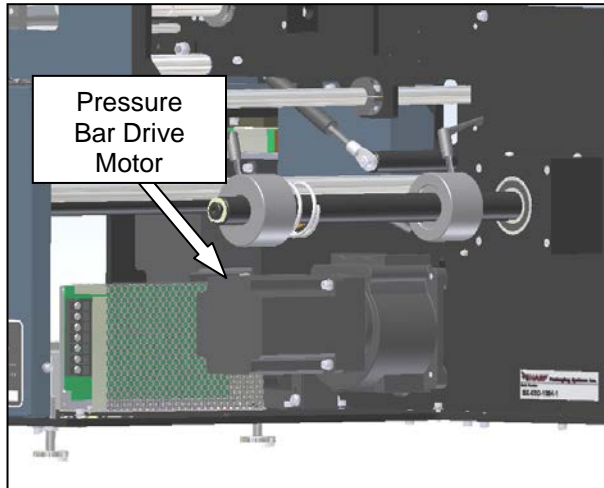

Figure 3-285. Pressure Bar Drive Motor
2. Locate the pressure bar gearbox and motor. Examine the base plate underneath the assembly (see Figure 3-285). The plate should be clean and dry. If oil is present, the gearbox is leaking and needs repair or replacement.